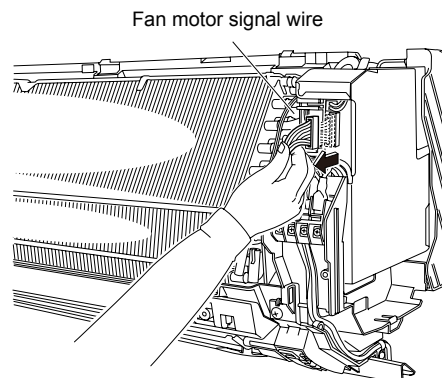

Fig. 22
- (5) Remove fan motor signal wire. (Fig.22)